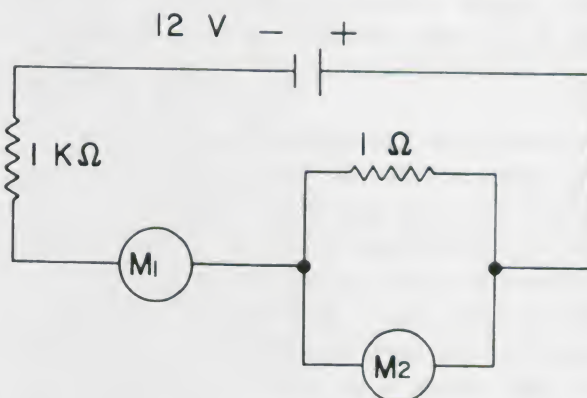

Figure 10A.
**Solution.** In the circuit of Figure 10A, the current in the  $1\text{-}\Omega$  resistor and the current through meter  $M_2$  combine to form the current through meter  $M_1$ . Thus, the current in meter  $M_1$  is greater than that in meter  $M_2$ . Since the deflection of the meter movement is larger for larger currents, meter  $M_1$  deflects more than meter  $M_2$ .